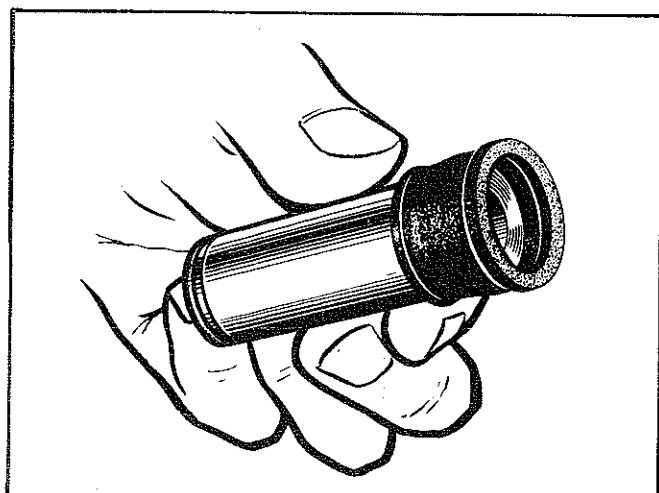

Fig. 9—Installing dust boot onto sleeve
- (5) Screw the bleeder into the caliper body.
- (6) Lubricate the sleeve holes, sleeves and seals and pack the sleeve dust boots with "Thermatex EP2" grease, supplied in the repair kit.
- (7) Install the seals into the sleeve hole grooves.
- (8) Install the dust boot over the end of the sleeve, Refer Fig. 9.